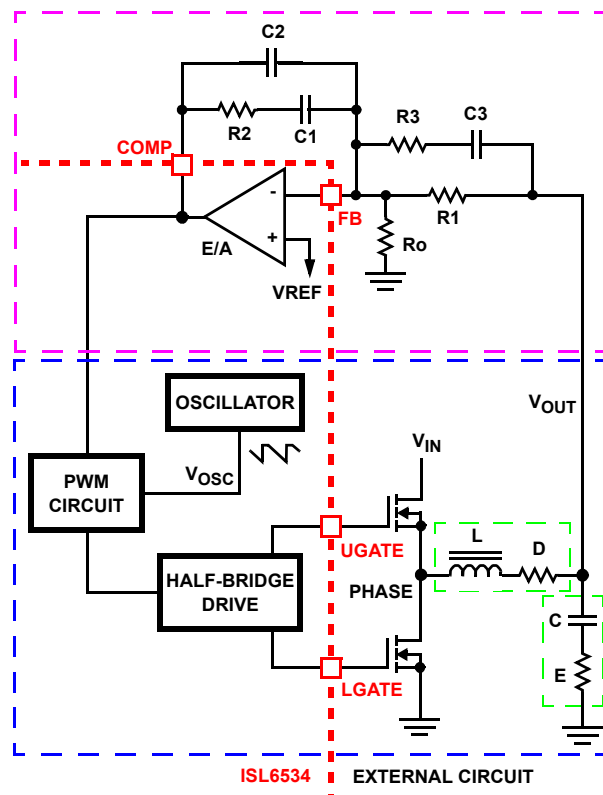

FIGURE 16. VOLTAGE-MODE BUCK CONVERTER COMPENSATION DESIGN
Figure 16 highlights the voltage-mode control loop for a synchronous-rectified buck converter, applicable to the ISL6534 circuit. The output voltage (V_{OUT}) is regulated to the reference voltage, V_{REF} . The error amplifier output (COMP pin voltage) is compared with the oscillator (OSC) modified sawtooth wave to provide a pulse-width modulated wave with an amplitude of V_{IN} at the PHASE node. The PWM wave is smoothed by the output filter (L and C). The output filter capacitor bank's equivalent series resistance is represented by the series resistor E.
5. Select a value for R1 (1kΩ to 5kΩ, typically). Calculate value for R2 for desired converter bandwidth (F_0). If setting the output voltage via an offset resistor connected to the FB pin, R_o in Figure 16, the design procedure can be followed as presented.